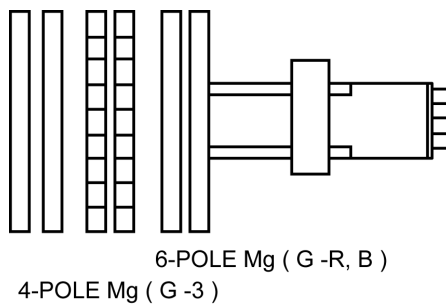

Fig. 1
- a. Make sure that the magnets are positioned as shown as in Fig. 1.
- b. Adjust the 4-pole magnets (Fig. 1) to align centre dots of R and B adjust 6-pole magnets to align centre dots to G.